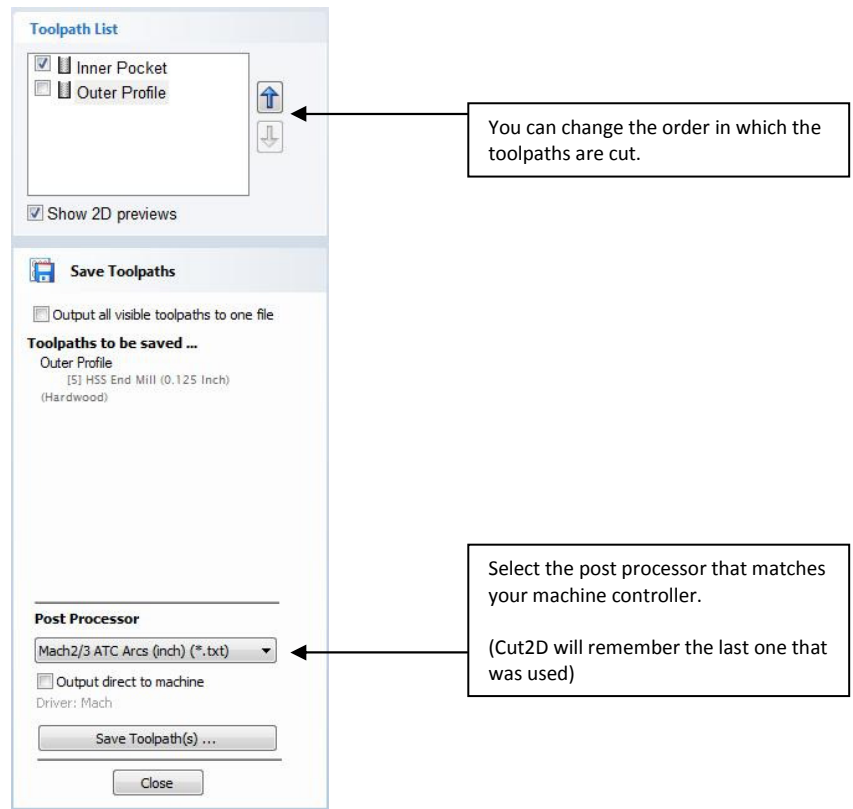

Figure 24. Save Toolpath form
15. From the pull-down list of postprocessors, select the appropriate one for your CNC machine as shown above in Figure 24.